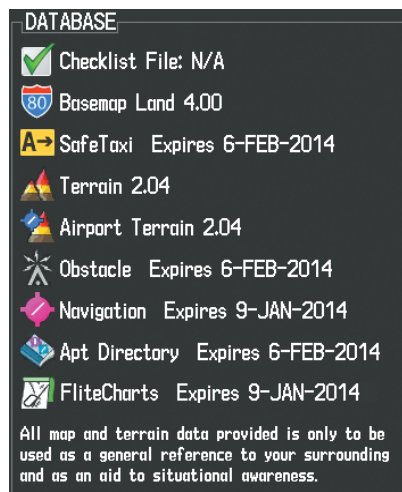

Figure B-10 Database Information on the Power-up Page
- 4) Apply power to the system, check that the databases are initialized and displayed on the Power-Up Page (Figure B-10). If a 'Verifying' message is seen, wait for the system to finish loading before proceeding to step 5.
- 4) Apply power to the system, check that the databases are initialized and displayed on the Power-Up Page (Figure B-10). A 'Verifying' message may be seen. If this message is present, wait for the system to finish loading before proceeding to step 5.